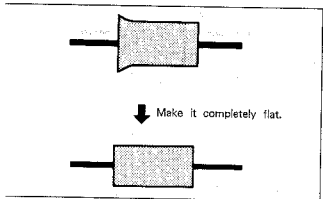

Fig. 7-73.
- 6) Flatten the waveform with No.3 guide. (See Fig. 7-73.)